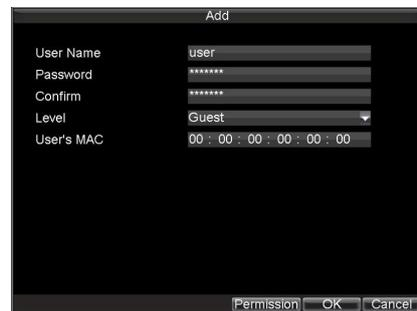

Figure 5. Add User Menu
1. Select the **Add** button to enter the **Add User** menu, shown in Figure 5.